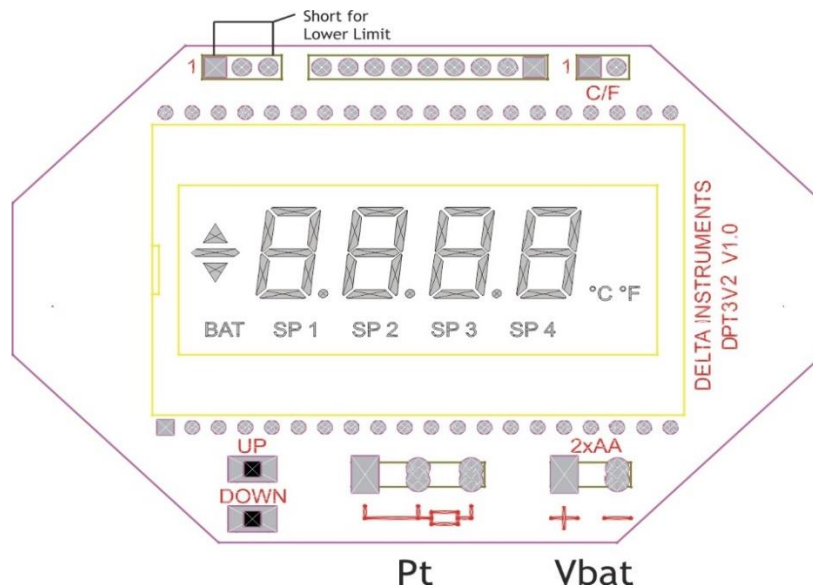

Figure 1
3. Make a short circuit as it is shown on the Figure 1 and wait until the symbols SP1 appear on the display.